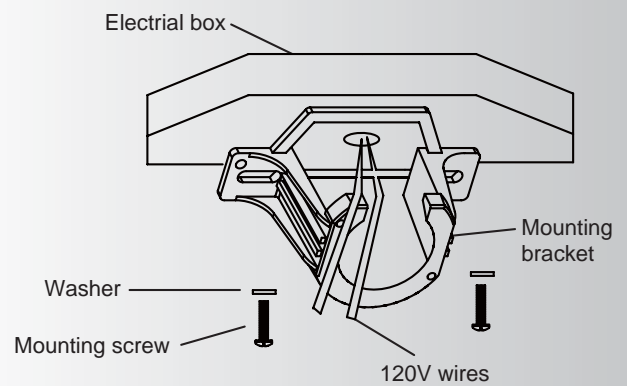

Fig. 6
Step 2. Secure the mounting bracket to the ceiling outlet box using screws and washers provided with the outlet box. (Fig. 6)